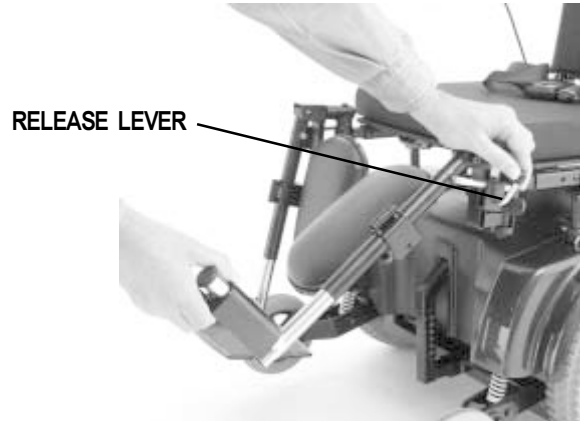

Figure 22. Elevating Leg Rests
1. Press the release lever. See figure 22.